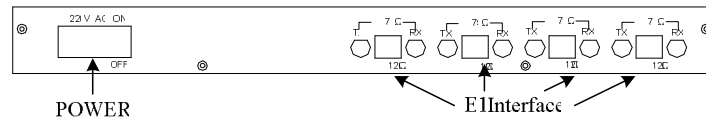

Figure5 AC input rear panel of AN-4E1-4ETH Interface Converter
- The AC input rear panel of 4E1/100BASE-TX Interface Converter is shown in figure 5.
The others are the same as in figure 5.